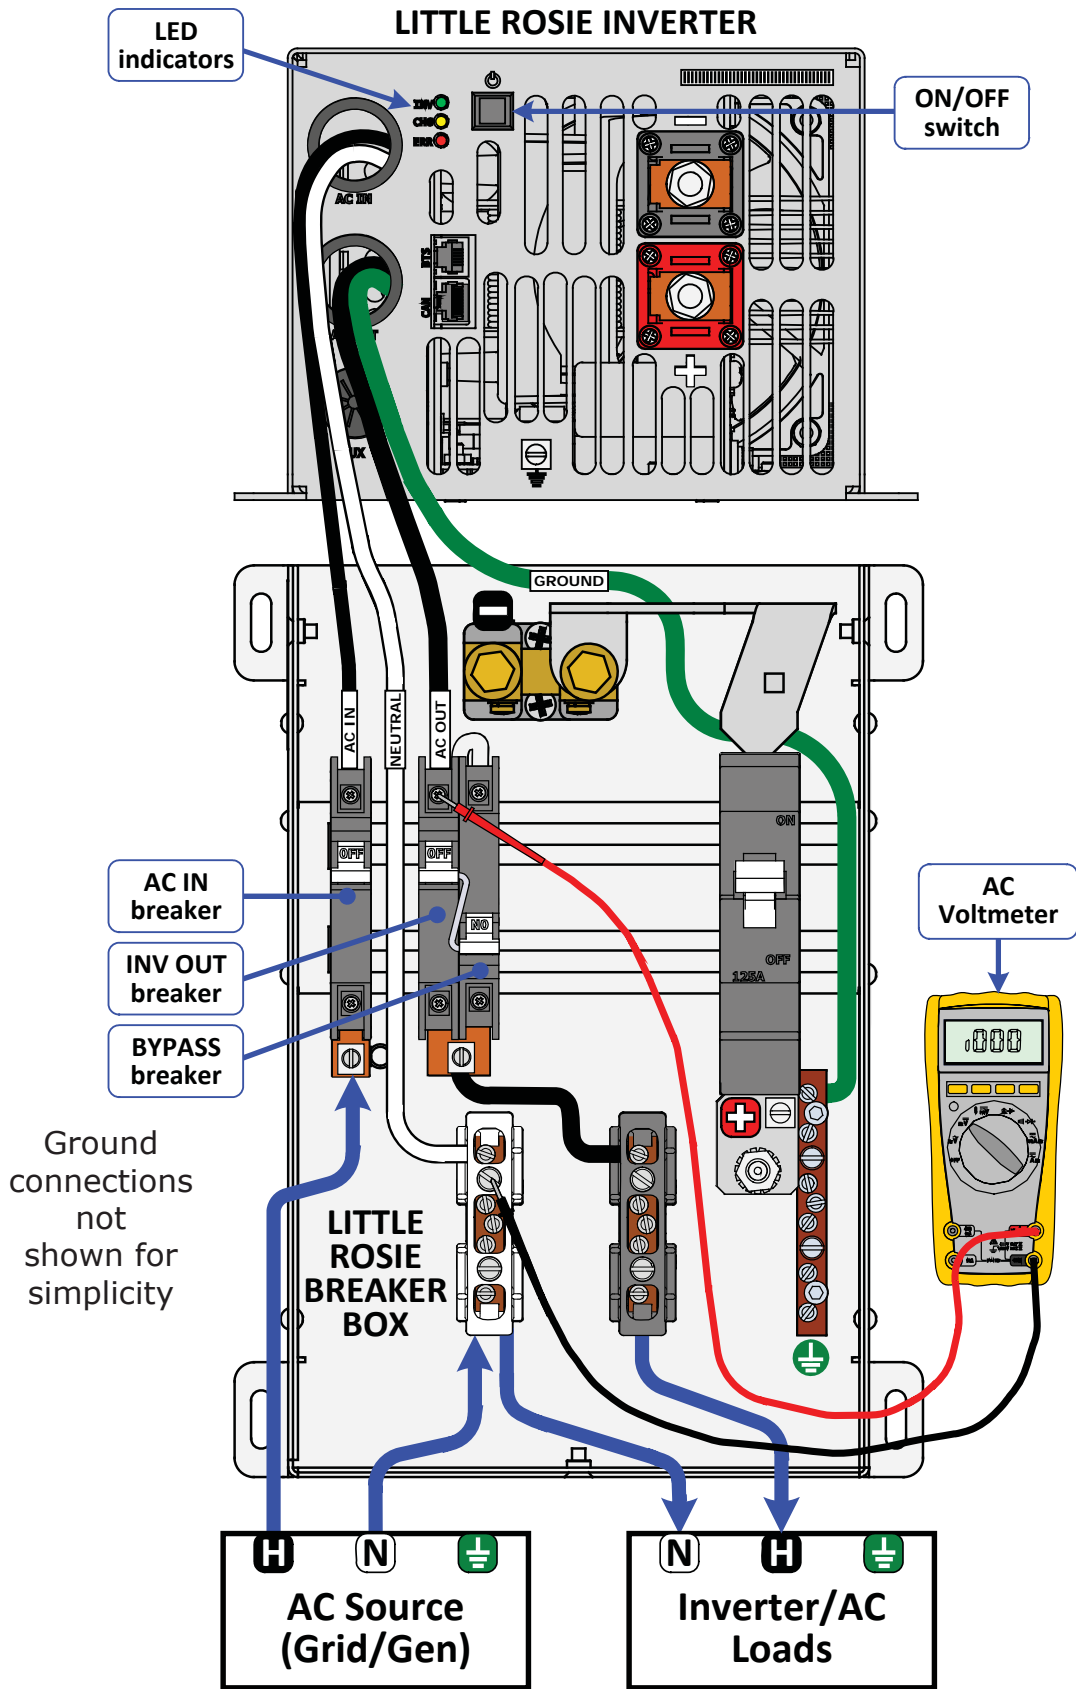

Figure 2-8, AC Voltage Check
5. Check the AC output voltage of the inverter by connecting an AC voltmeter to the top of the **INV OUT** breaker and the NEUTRAL busbar (see Figure 2-8). Verify the voltage is 120 VAC \pm 2.5 VAC.